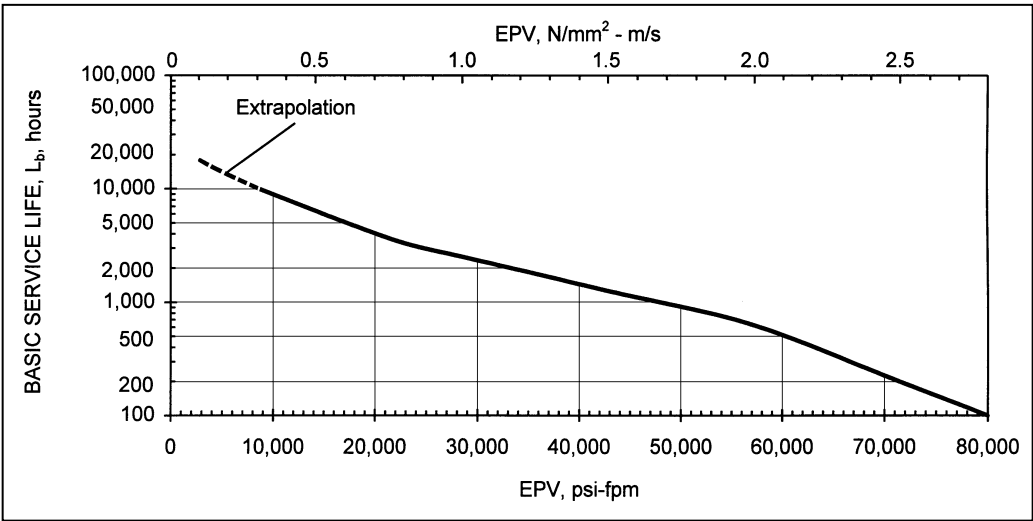

Figure 5-4. DX Basic Service Life, L_b , vs. EPV
Figure 5-4 shows the basic service life, L_b , in hours assuming normal room temperature conditions, normal running clearances, and good heat dissipation of a well-proportioned bearing operating against low carbon steel with a surface finish of 16 microinches (0.4 micrometers). The following graphs and tables describe major factors affecting DX bearing life.
The calculated EPV factor, as described on page 5-4, is used to determine the basic DX bearing service life L_b . The estimated bearing life, L_{DX} , is calculated by applying various service factors to the basic service life L_b . Refer to Figure 5-4 and read the basic service life based on the calculated EPV.
- L_b = DX basic service life, hours, see Figure 5-4
- L_b = sleeve bearing basic service life, Figure 5-4